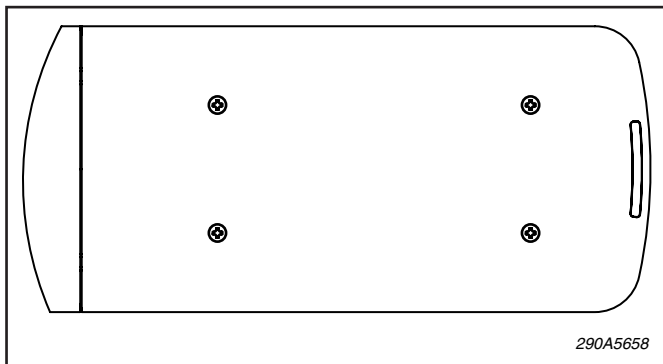

Figure 3.
B. *Top Removal (see figure 3).*